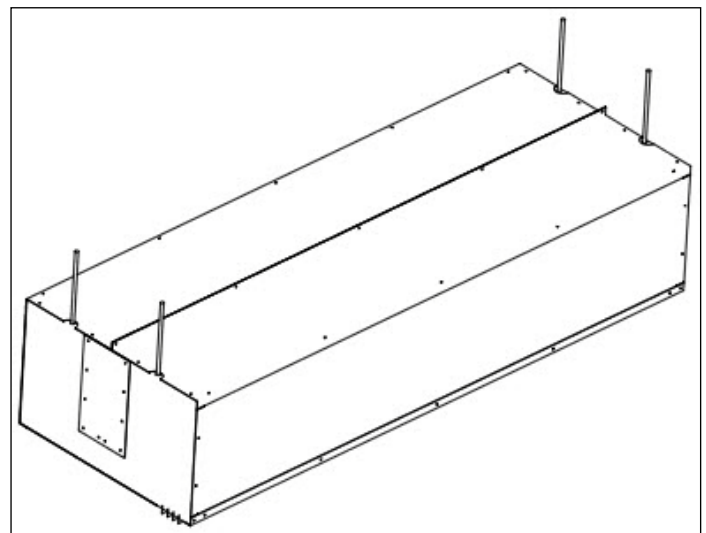

FIG. 2
4. All units are equipped with (4) 3/8" threaded inserts on top for overhead installation (FIG. 2)
6. and parallel with the door opening. Use (4) threaded rods to suspend the enclosure to the ceiling.